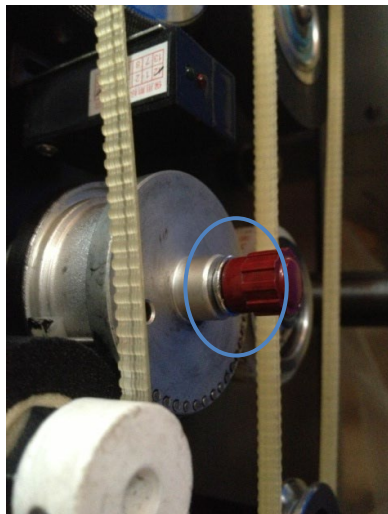
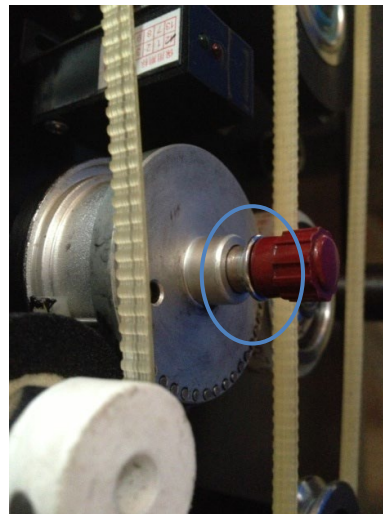

Figure 11. Locked Handle Position
Figure 12. Unlocked Handle Position
- 1. Removing Print Wheel.** To remove the printing wheel from the base, push the red handle in and turn clockwise until you feel the handle unlock. (See Figure 11 and Figure 12 for locked and unlocked positions). You may need to turn the wheel a few times until the red handle unlocks and pops out of its locked position.